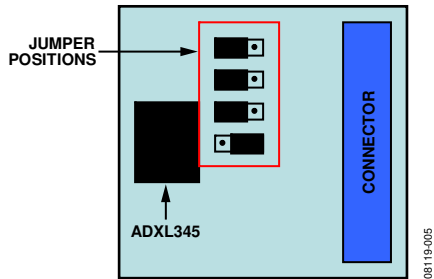

Figure 5. Correct Jumper Positions for the ADXL345 Satellite
5. Verify that the jumpers located in the center of the ADXL345 satellite are configured as shown in Figure 5.